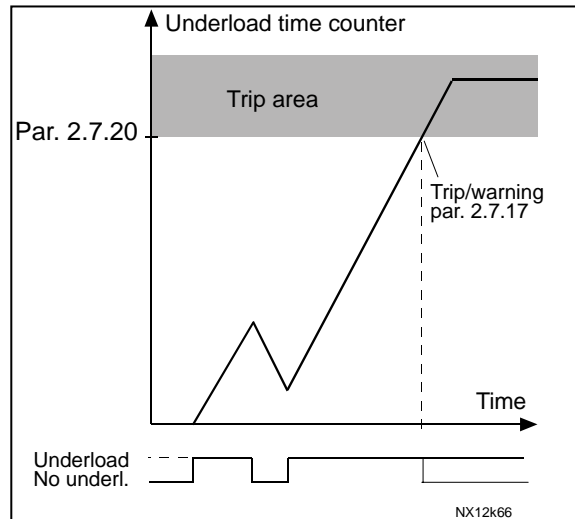

Figure 30. Underload time counter function
*This is the maximum time allowed for an underload state to exist. An internal up/down counter counts the accumulated underload time. If the underload counter value goes above this limit the protection will cause a trip according to parameter 2.7.18). If the drive is stopped the underload counter is reset to zero. See Figure 30.*